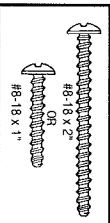

FIG. 11
8. **Secure hood to cabinet.** (FIG. 11)
8. **Sujete el extractor al gabinete.** (FIG. 11)